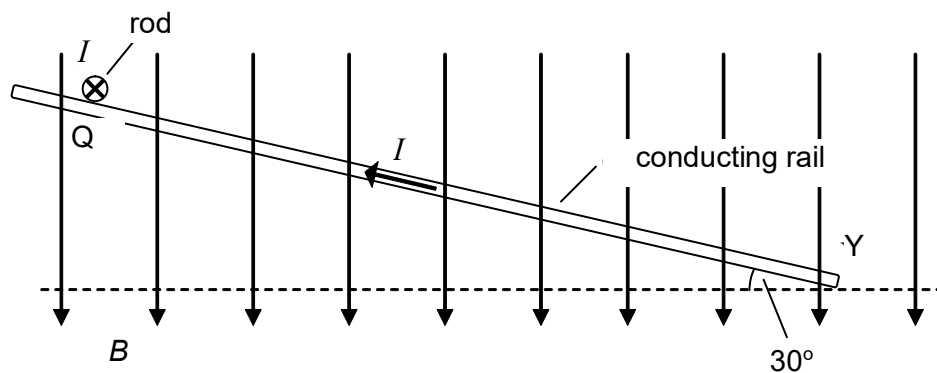

Fig. 7.2
Fig. 7.2 shows the side view of the setup. The conducting rails are inclined at an angle of 30° above the horizontal. The switch is closed and current is flowing in the conducting rail as shown in Fig. 7.2.
- (a) On Fig. 7.2, draw the forces acting on the rod. Label the forces clearly. [1]